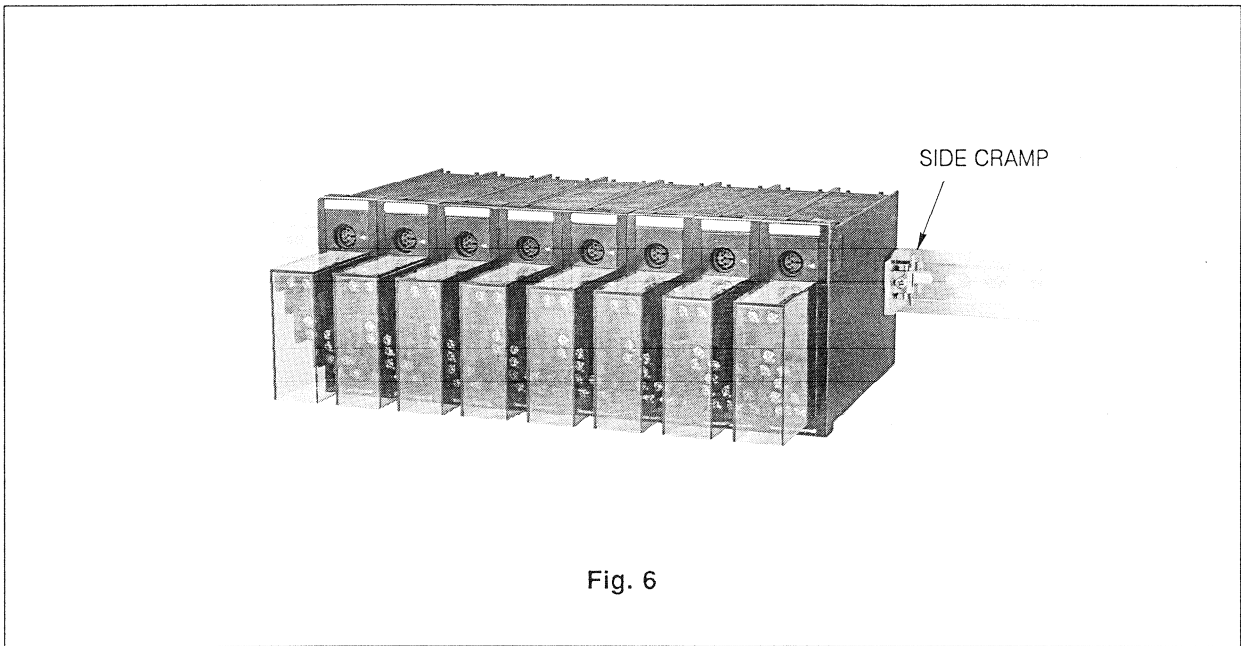

Fig. 6
- (2) After installing the modules, fix the side clamps supporting the right or left ends of the outermost modules as shown in Fig. 6.